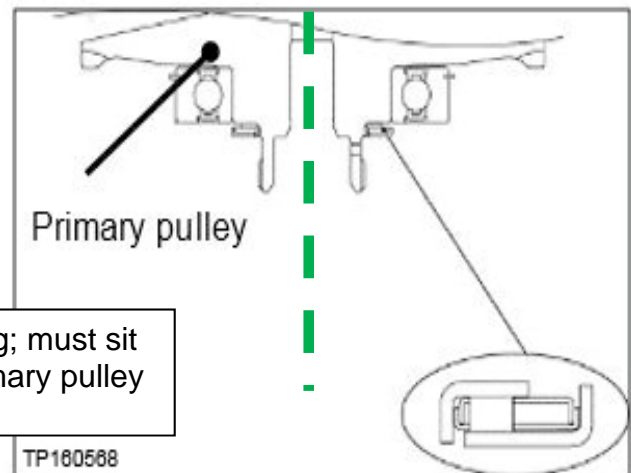

Figure 90
- The thrust bearing has two sides. Reference Figure 90 for bearing orientation.